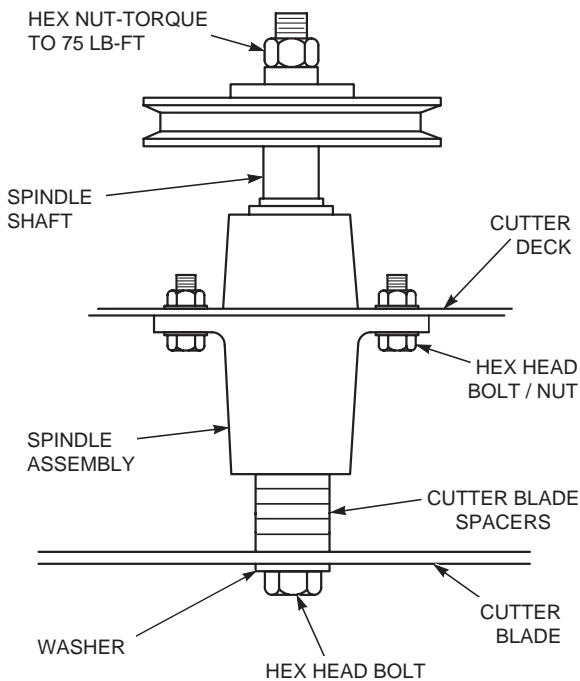

Figure 7-3. Blade Replacement
3. Secure the cutter blades to prevent them from rotating, (use the optional Blade Buddy tool P/N 9212, to assist in securing the cutter blades), remove the blade attaching bolt. Remove the cutter blade, bolt, lockwasher and flatwasher from the spindle shaft. See Figure 7-3.
4. Install the cutter blade on to the cutter spindle shaft. Secure the blades from rotating and torque to 75 ft/lbs. See Figure 7-3.